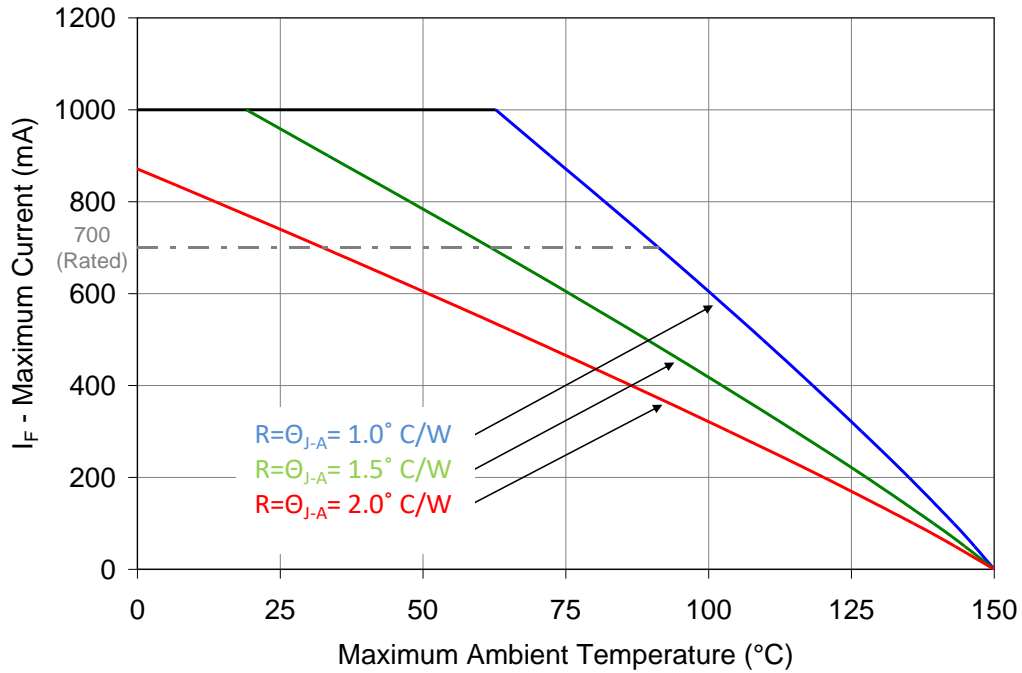

Figure 10: Maximum forward current vs. ambient temperature based on $T_{J(MAX)} = 150^{\circ}C$.
- Maximum DC forward current (per die) is determined by the overall thermal resistance and ambient temperature. Follow the curves in Figure 10 for current de-rating.